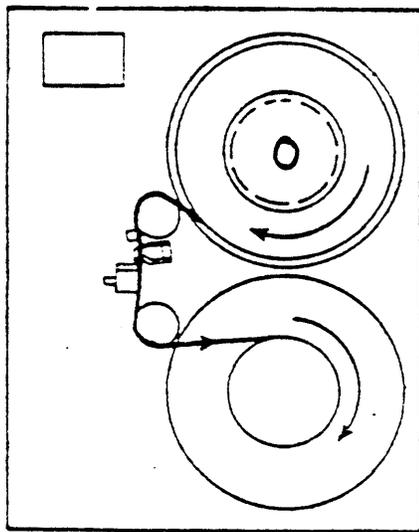

Figure 6 Threading Tape
- _____ Thread tape through the tape path as shown in figure 6. Wind approximately 4 turns of tape onto the take-up reel.